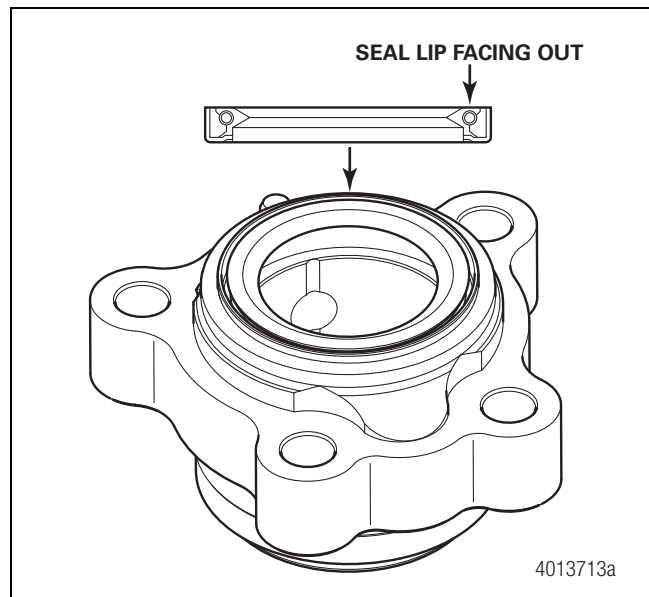

Figure 11.50
13. Place the second new seal on the opposite side of the housing with the seal lip facing out away from the bushing. Figure 11.50.